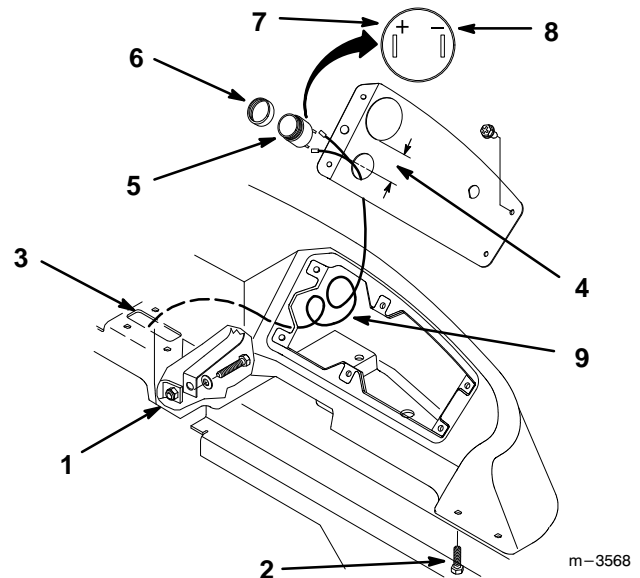

Figure 16
12. Loosen left console clamp and two lower front mounting bolts. Pull console away from left frame member to gain access to holes in frame and console. Route new wire harness through holes in frame and into bottom of console (Fig. 16).
14. Insert buzzer, from the rear, and secure with retaining ring (Fig. 16).
15. Connect new wire harness pink lead to + terminal and green lead to - terminal (Fig. 16).